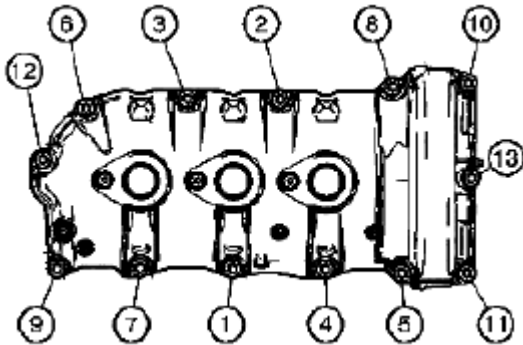

Fig. 113: Tightening Right Camshaft Cover Bolts In Sequence
5. Tighten the right camshaft cover bolts in the sequence shown in **Fig. 113**.